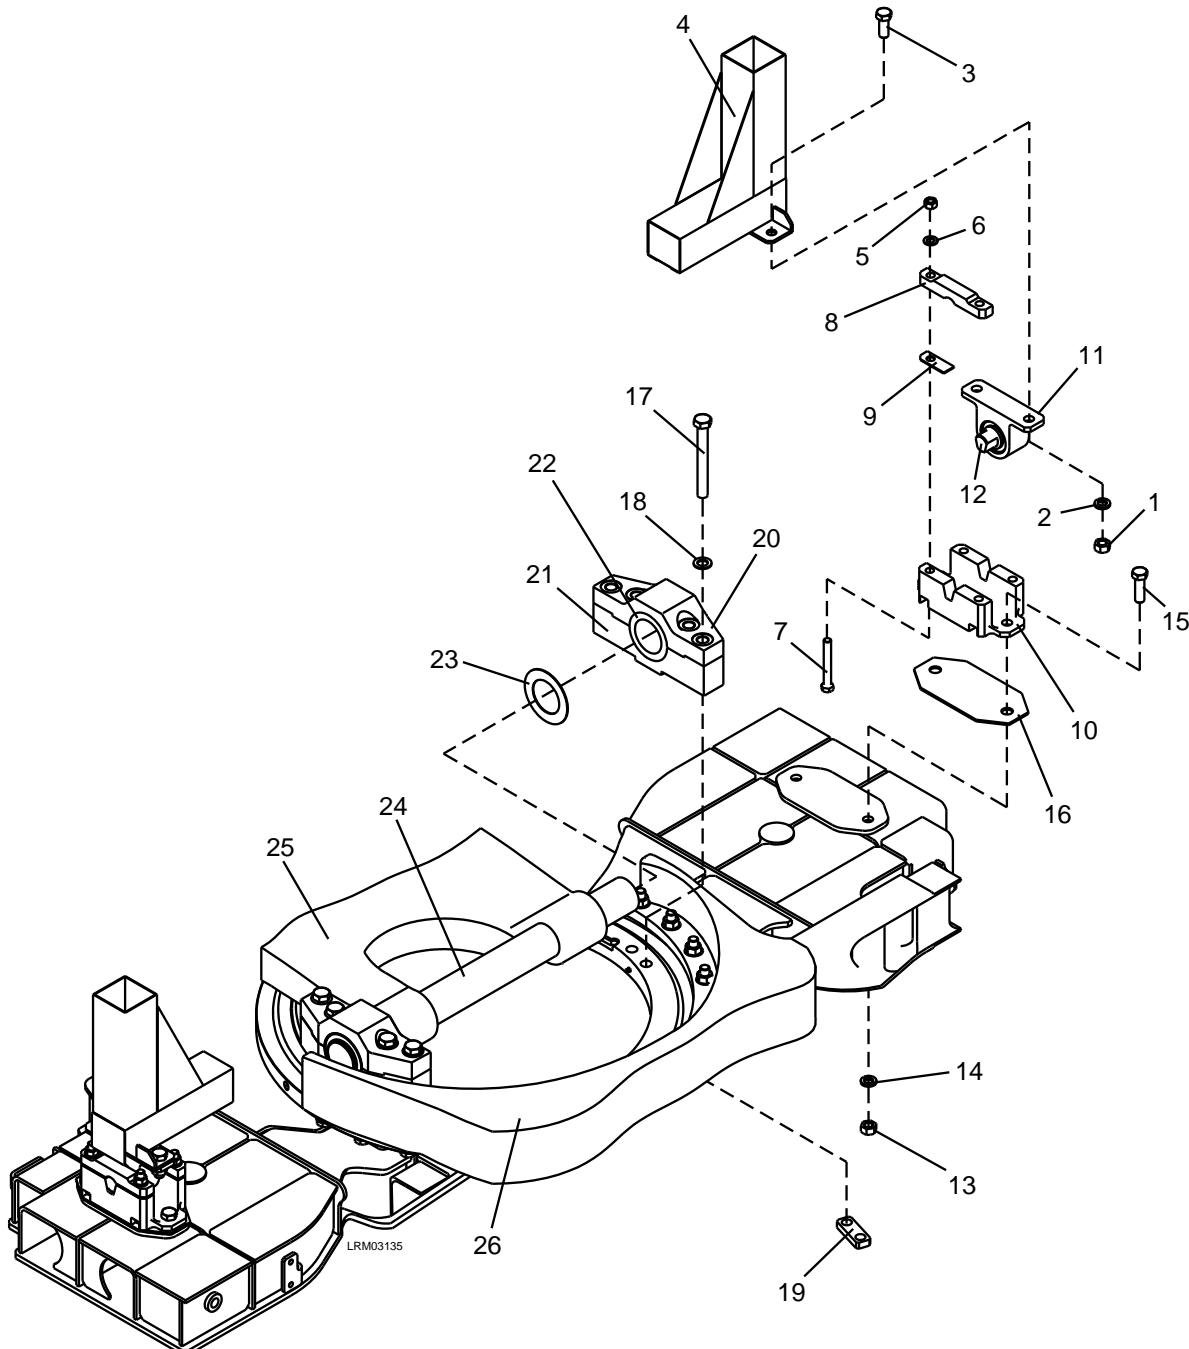

Figure 7-135: Articulation Middle Frame and Pivot Bearing Assembly
1. Support the Articulation Middle Frame (4) using a crane and the two eyebolts on top of the frame.
2. Remove the four M20 nuts (1), M20 lock washers (2) and M20 x 50 bolts (3) from the Articulation Middle Frame (4). See Figure 7-135.
3. Remove the eight M16 nuts (5), M16 plain washers (6) and M16 x 120 bolts (7).
4. Remove the four bearing caps (8) and eight packing (9) from the pivot bearing support (10).
5. Remove the Articulation Middle Frame (4).
6. Remove the two bearing supports (11) with the pivot shafts (12).
7. Remove the four M20 nuts (13), M20 lock washers (14) and M20 x 65 bolts (15) from the pivot bearing support (10).
8. Remove the two pivot bearing supports (10) and shims (16).
2. Remove the eight M22 x 190 bolts (17), M22 plain washers (18) and nut plates (19) from the upper articulation shaft bearings (20). See Figure 7-135.
3. Remove the upper articulation shaft bearings (20).
4. Using a lifting device, lift the B-Unit articulation arm (25) high enough to clear the A-Unit articulation arm (26).
5. Remove the two Articulation Shaft Rubber Bearings (22) and the two shims (23).
6. Pull the articulation shaft (24) through the B-Unit articulation arm (25).